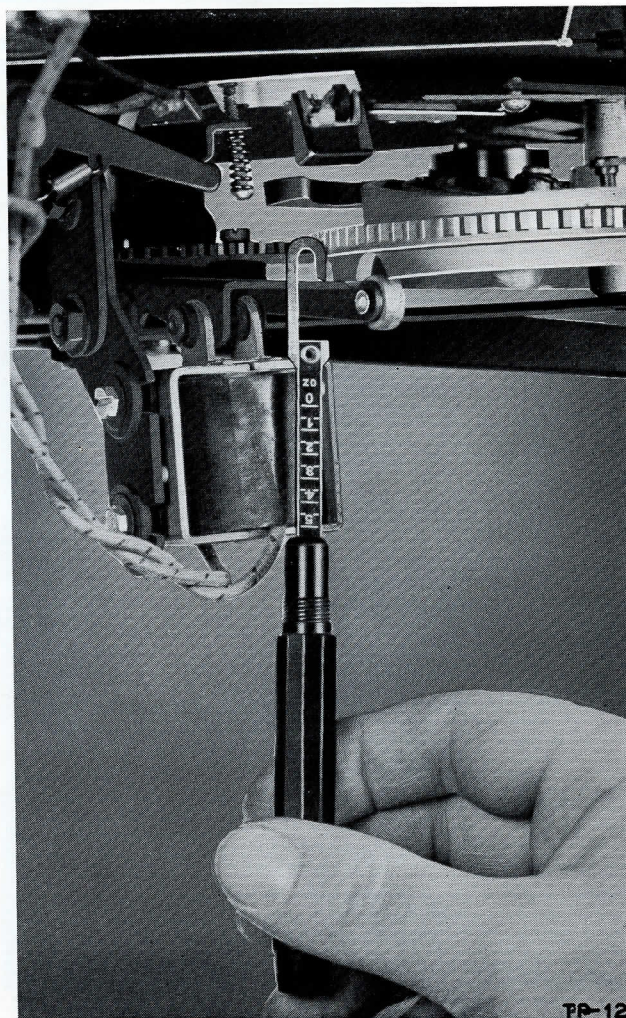

FIGURE 33. MEASURING CLUTCH-RELEASE PRESSURE
2. Use the 8-oz. scale, Part No. 45-2951, and measure the pull, in ozs., required to disengage the clutch-lever roller from the recess in the cam gear, figure 33. The correct pull should be between 5 and 8 ozs.